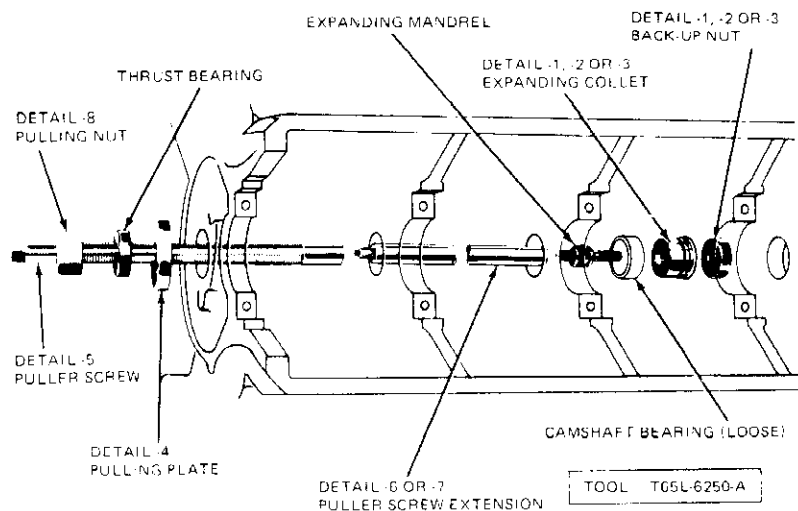

FIG. 35 Camshaft Bearing Replacement
2. Remove the camshaft rear bearing bore plug. (See Core Plugs in Part 21-01.) Remove the camshaft bearings (Fig. 35).
1. Position the new bearings at the bearing bores with the oil holes aligned, and press them in place with the tool shown in Fig. 35. Be sure to center the pulling plate and puller screw to avoid damage to the bearing. **Failure to use the correct**